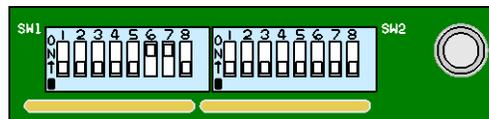

Figure 11: SW1 DIP Switch Configuration
Step 2: Set the BUS address on the RTU by positioning DIP-switch SW1 in the configuration shown in Figure 11, Refer to Table 1 for address settings.